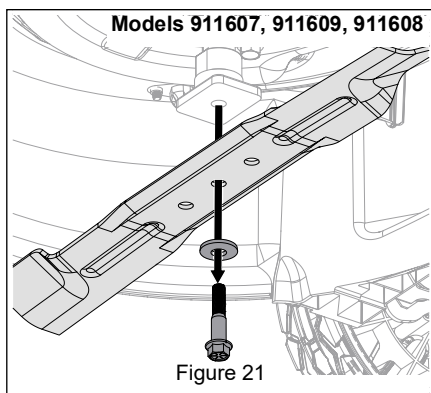

Figure 21
5. Remove hardware retaining blade and remove blade. Retain hardware. See Figure 21.